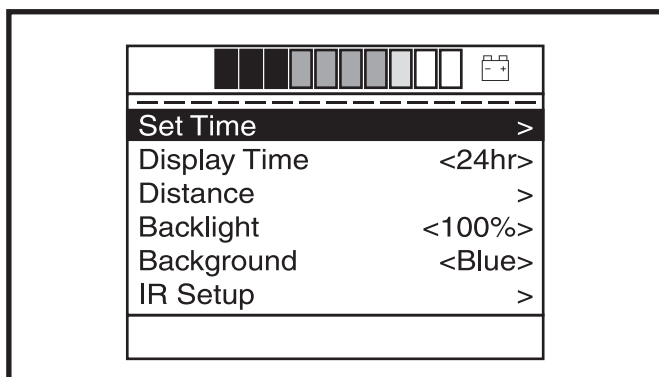

Figure 2. Main Menu Screen
2. Push and hold the speed increase and speed decrease buttons simultaneously to display the Main Menu Screen. **See figure 2.**
2. Push and hold the speed increase and speed decrease buttons simultaneously to display the Main Menu screen. **See figure 2.**